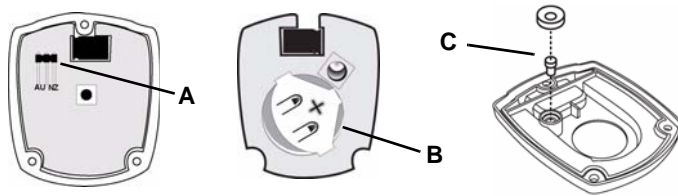

Figure 2 Transmitter internal components
Caution: Carefully separate the rear housing cover, ensuring the reset button plunger assembly does not fall out of the housing (Figure 2).
2. Slide the battery under the battery holder, ensuring that it is fully inserted and that the positive terminal (+) faces up (Figure 2).
3. Turn the board over to access the side with the frequency band selection pins (Figure 2).
4. Slide the new battery under the battery holder, ensuring that it is fully inserted and that the positive terminal (+) faces up (Figure 2).